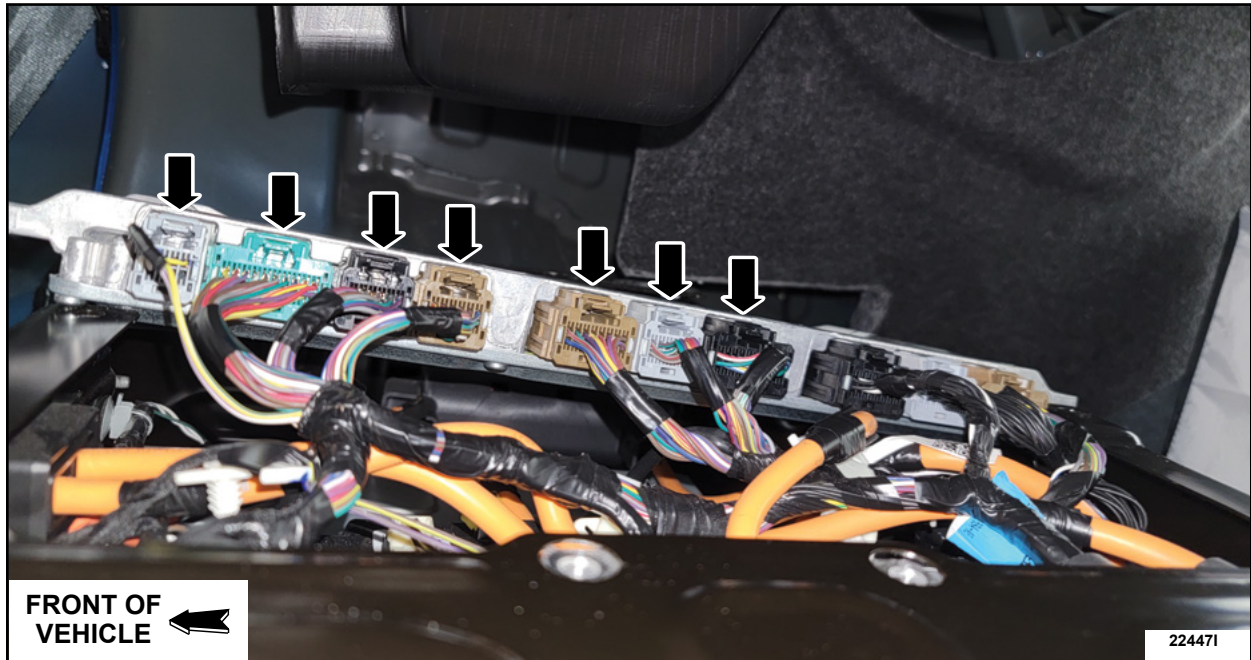

FIGURE 9
12. Disconnect the 7 electrical connectors on the front of the vehicle side of the BECM. See Figure 9.